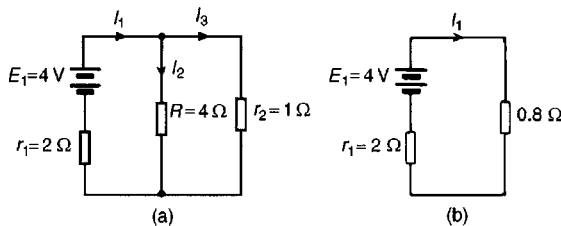
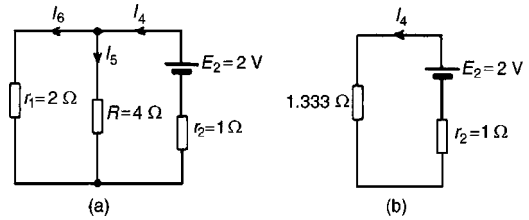
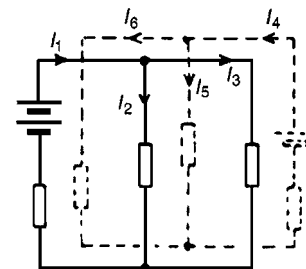

Figure 13.17
Figure 13.18
Figure 13.19
1. Redraw the original circuit with source E_2 removed, being replaced by r_2 only, as shown in Fig. 13.17(a)
2. Label the currents in each branch and their directions as shown in Fig. 13.17(a) and determine their values. (Note that the choice of current directions depends on the battery polarity, which, by convention is taken as flowing from the positive battery terminal as shown)
From the equivalent circuit of Fig. 13.17(b),
From Fig. 13.17(a),
3. Redraw the original circuit with source E_1 removed, being replaced by r_1 only, as shown in Fig. 13.18(a)
4. Label the currents in each branch and their directions as shown in Fig. 13.18(a) and determine their values.
From the equivalent circuit of Fig. 13.18(b)
From Fig. 13.18(a),
5. Superimpose Fig. 13.18(a) on to Fig. 13.17(a) as shown in Fig. 13.19